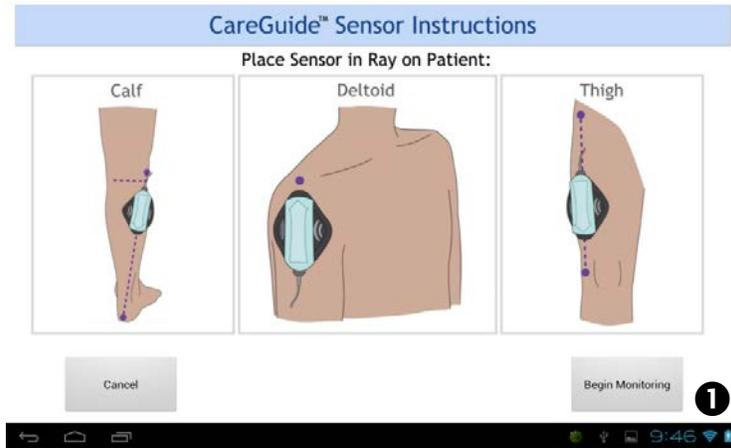

Figure 17. Placement Instructions Screen
- 1 Once the Ray is placed on the patient, click 'Begin Monitoring' (Figure 17 ①).